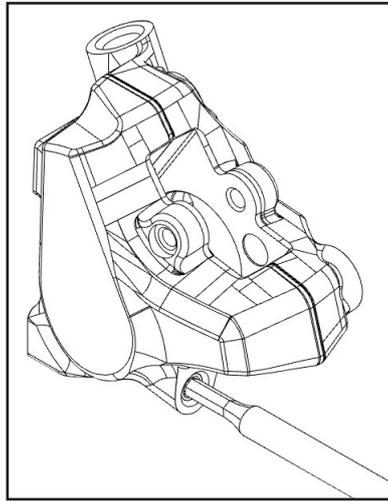

Fig 3
- Use a T15 Torx wrench to remove the bleed screw from the caliper. (Fig 3)